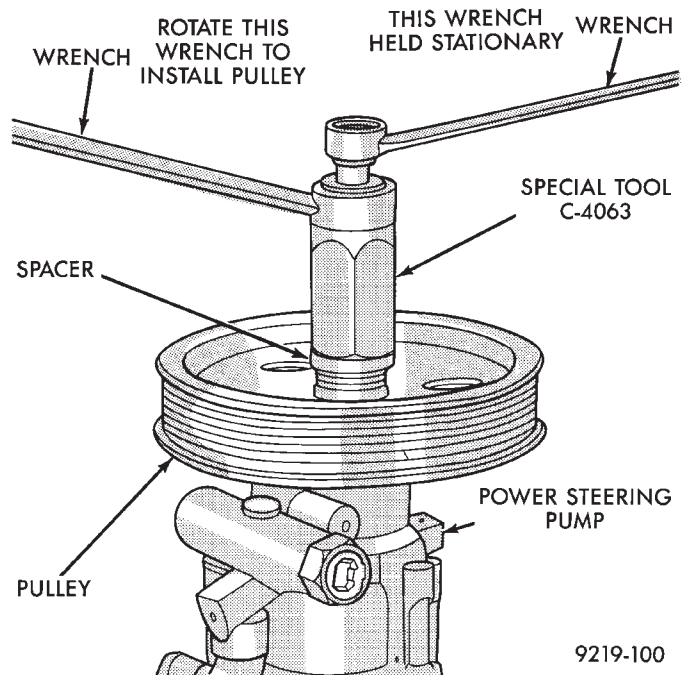

Fig. 4 Installing Power Steering Pump Pulley
(3) Insert the Pulley Installer, Special Tool C-4063, (without adapters) through hole in spacer. Then thread it into the end of the power steering pump shaft (Fig. 4). Tighten the installer into shaft.
(4) Hold the Pulley Installer with one wrench so it will not rotate. Turn hex (Fig. 4) down threaded rod of installer pushing the pulley onto the shaft of the power steering pump (Fig. 4). Ensure that the tool and the pulley remain aligned with the pump shaft so pulley does not become cocked on shaft.
(5) Continue to push pulley onto shaft of power steering pump until Pulley Installer, Special Tool C-4063 will no longer turn. This will ensure the